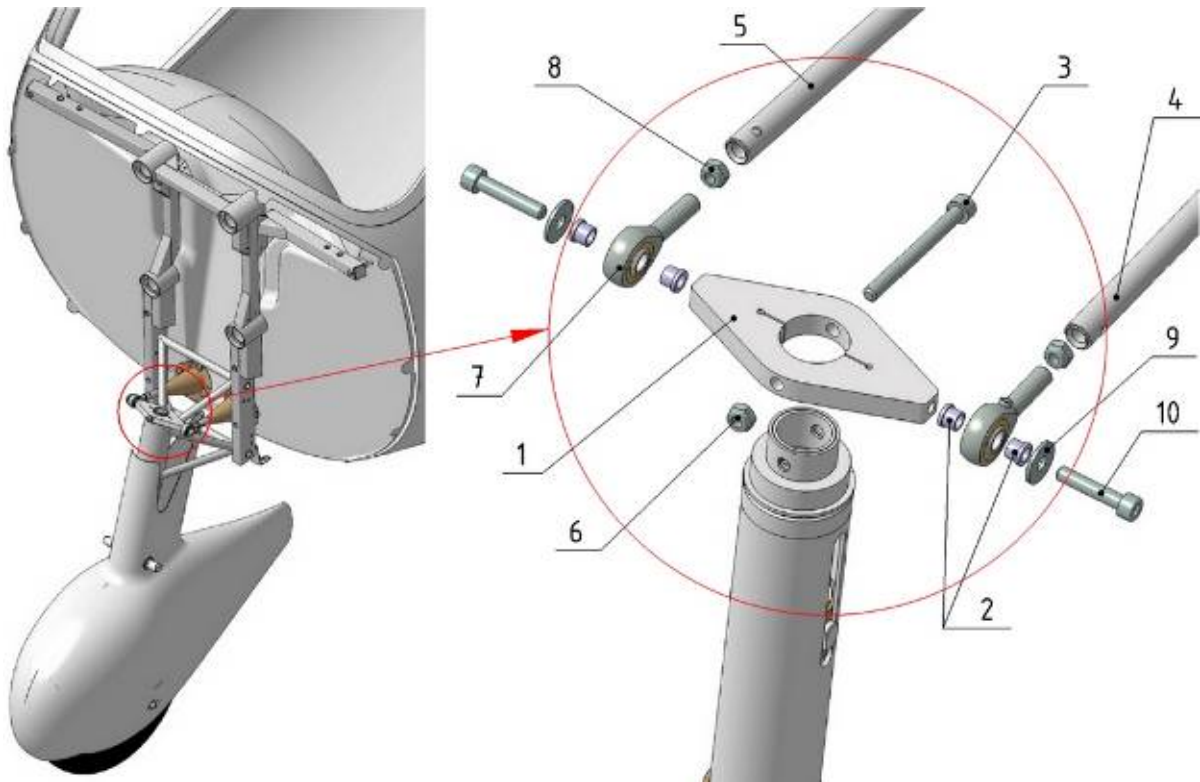

Fig. 32-20-3
B. Nose Gear Uninstalling (Fig. 32-20-3)
C. Nose Gear Installing (Fig. 32-20-3)